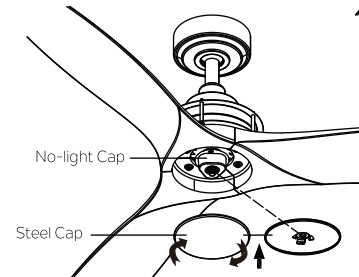

Fig. 20
**Step 3.** Assemble the steel cap to the no-light cap by twisting in a clockwise direction. (Fig.20)